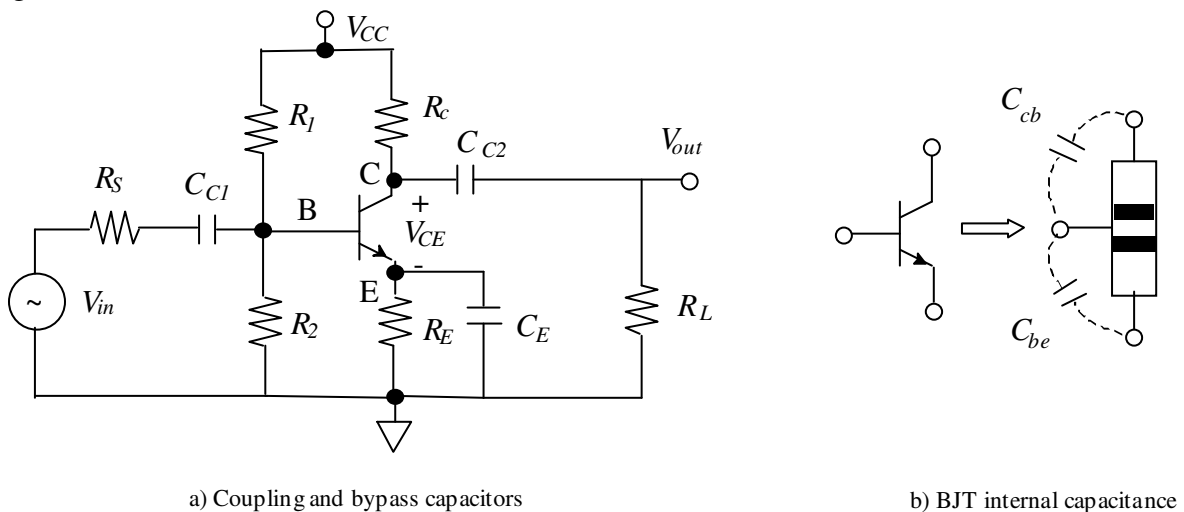

Figure 1
A single stage common –emitter amplifier is shown in figure 1-a. The biasing circuit consists of two resistors R_1 and R_2 . It is called the self-biasing technique and allows us to use a single power supply. The resistance R_E is necessary to improve the stability of the amplifier, but on the other hand it reduces the gain. Therefore, a capacitor is connected across R_E to preserve the DC characteristics of the amplifier while eliminating the negative effect of the R_E on the gain in AC
The figures below show equivalent circuits for the amplifier shown in figure 1-a. To determine the upper and lower 3dB points from the equivalent circuit use the superposition theorem to obtain the time constant due to the presence of each capacitance in the circuit. The time constant of the capacitor C_i is given by
- 1- Build the circuit shown in figure 1(a) using the following components listed in the table below
- 5- In Fig.1 (a) $C_E = 0.1 \mu F$. This value is changed to $22 \mu F$ in step 5. Based on your theoretical knowledge, how do you expect the lower 3 dB to change when C_E is increased to $22 \mu F$?